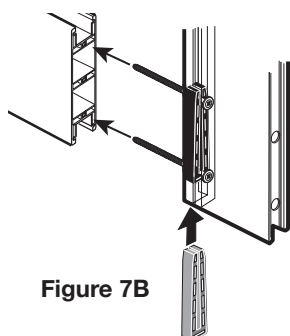

Figure 7B
Slide a reinforcement clip (D) into the channel and over the screw shafts. Make sure side of the bottom rail with the thinner channel is facing up towards the inside of the door. Place the end of the Bottom rail (C2) against the screws, lining up the holes in the extrusion. See Figure 7B